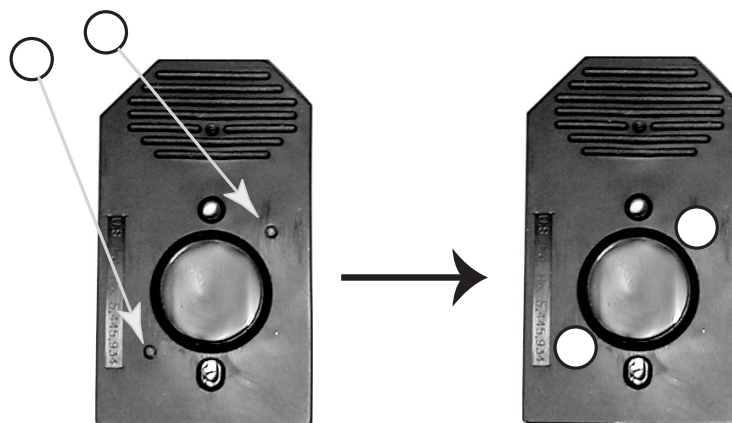

Figure 5.1 Applying Tough-Spots® to Arrays
4. Carefully cover both septa with Tough Spots (See Figure 5.1 on page 91). Press to ensure the spots remain flat. If the spots do not apply smoothly (e.g. if you see bumps, bubbles, tears or curled edges) do not attempt to smooth out the spot. Remove the spot and apply a new spot.